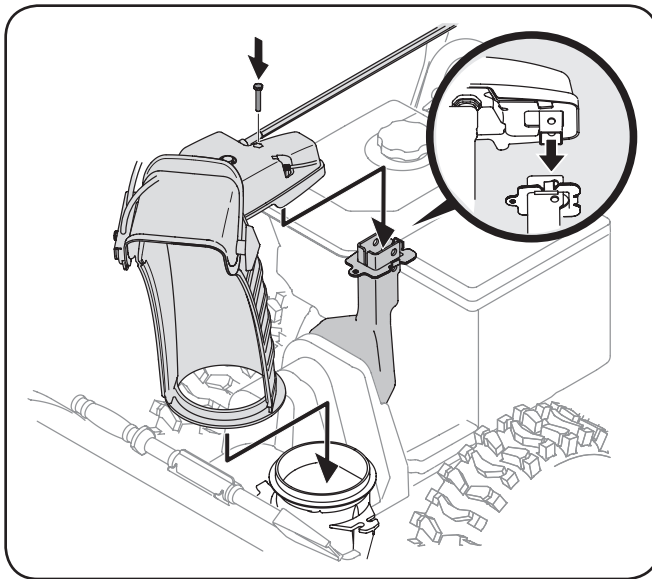

Fig. 3-5
3. Place chute onto chute base with the chute control rod positioned under the handle panel. Reinstall the hex bolt previously removed *but do not secure with wing nut at this time*. See Fig. 3-5.